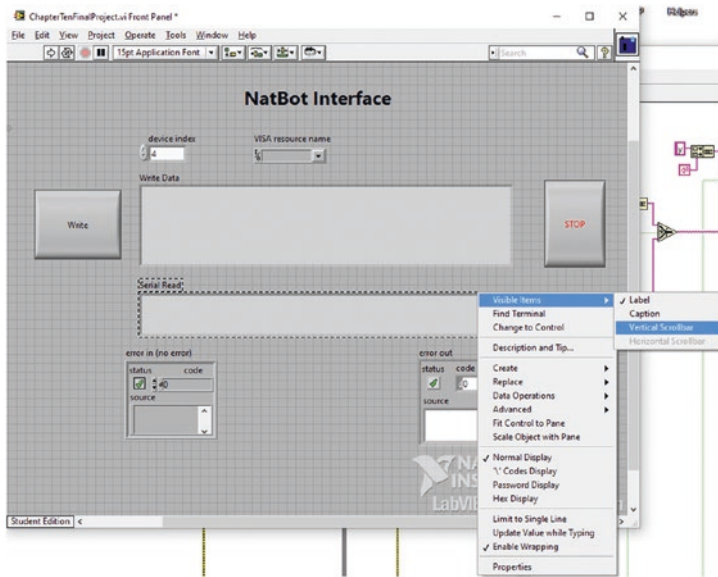

Figure 10-31. Make the vertical scrollbar visible
- 6. To add a vertical scrollbar to the “Serial Read” indicator, right-click the indicator and go to Visible Items ► Vertical Scrollbar, and the scrollbar will appear. See Figures 10-31 and 10-32.